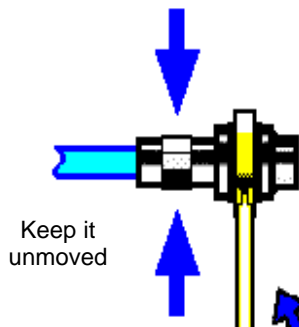

Fig. 2.6 Completion of Final Connection with a Torque Wrench
Step 3. As shown in Fig. 2.6, use a torque wrench to complete the final connection. It should be noted that the torque wrench should not exceed the starting kick point. An auxiliary wrench can be used to prevent the connectors from rotation.